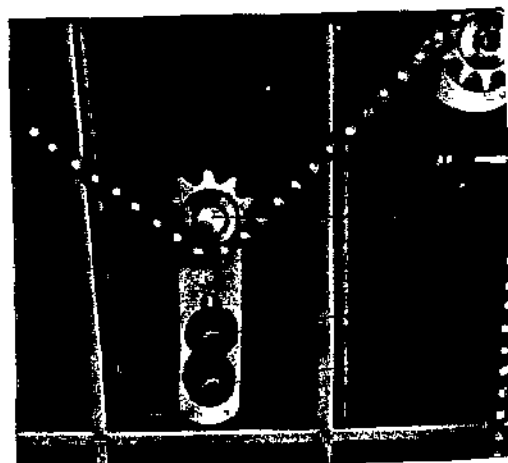
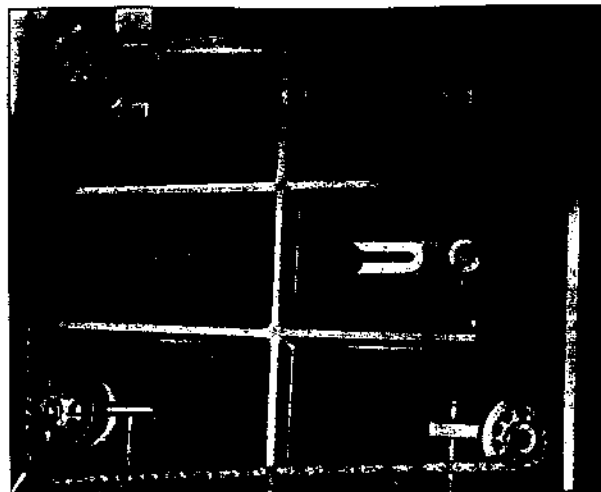

Fig. 25
Fig. 26
2. Tilt planer on its side to expose underside of base, as shown in Fig. 25
3. Remove bolt (A) and loosen bolt (B) Fig. 25, which will allow you to move the idler sprocket assembly (C) far enough to release tension on chain, as shown in Fig. 26.
4. Remove chain from sprocket on corner of base that must be adjusted. In Fig. 26 chain has been removed from sprocket (D).
5. Turn sprocket (D) Fig. 26 by hand to bring that corner into adjustment with other three corners.